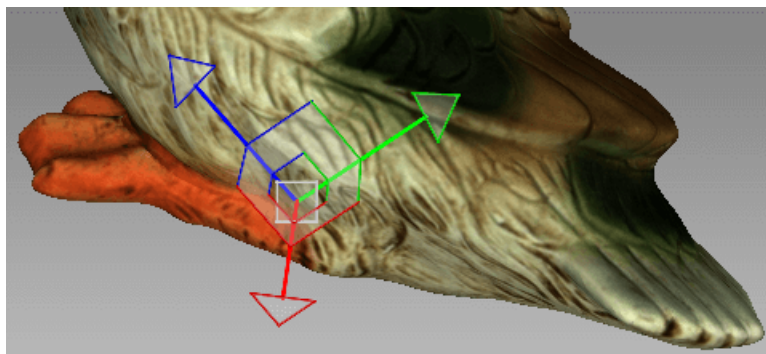

Figure 115: Translation control
- Translate the object in the *3D View* window by dragging the corresponding control (see Figure 115):